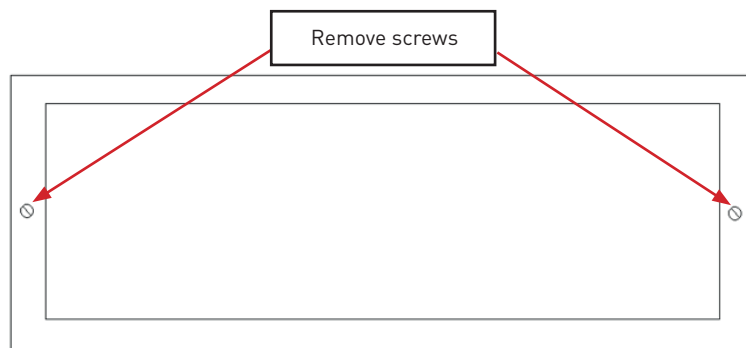

Fig 1
- Remove the 2 screws holding the bezel and glass in place, see Fig 1